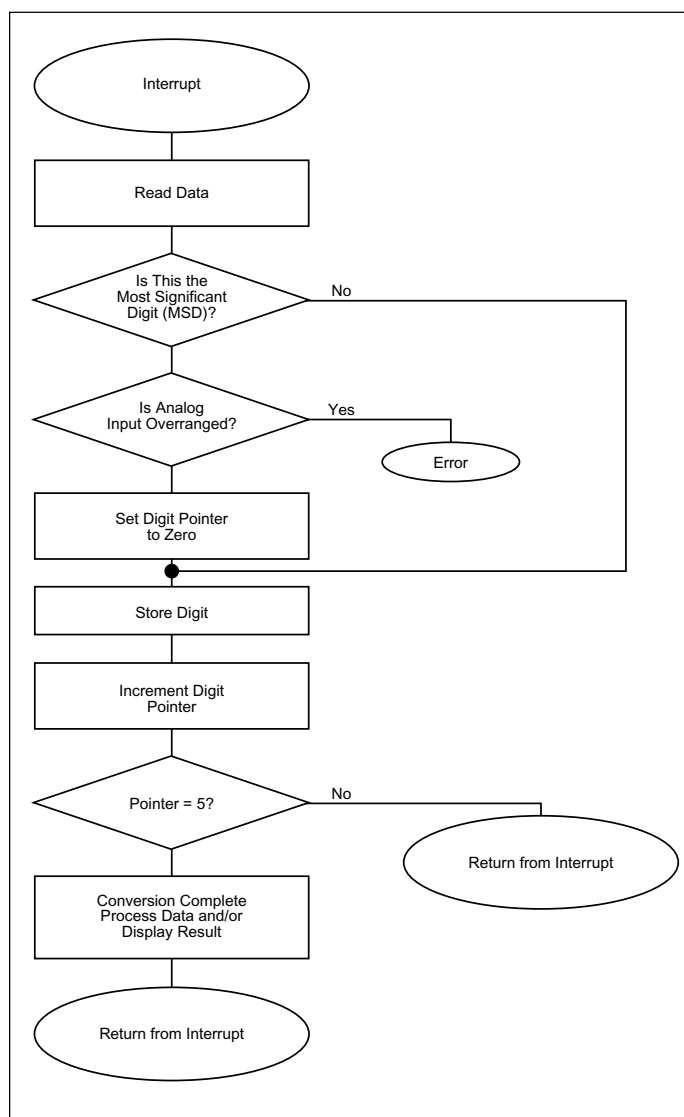

FIGURE 4: TC7135 to 6502 μ P interface program flow chart.
Software for the TC7135 to 6502 interface can be divided into three routines: (1) Programming the 6522's Port A for latched input and interrupt from CA1; (2) the interrupt service routine which actually acquires and stores BCD data from the TC7135; (3) display or manipulation of the acquired data. Figure 3 is a 6502 assembly language listing of the first two routines. An interrupt service routine flow chart is shown in Figure 4. Since the end of a digit scan leaves 5 digits of BCD data in successive memory locations, the user will find the interface software easy to incorporate into a specific display or manipulation routine.